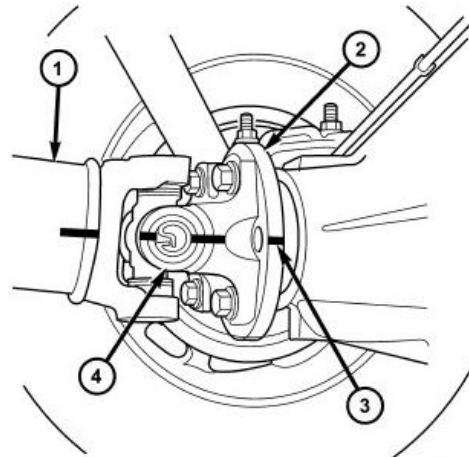

Figure 9 – Propeller Shaft Flange
92. Connect the harness from the PCM (Figure 9).
25. For 2wd, mark propeller shaft (1) pinion flange (2) and propeller shaft flange (4) with installation reference marks (3) (Figure 9).